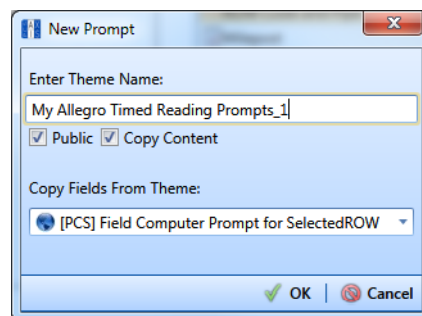

Figure 8-20. New Prompt
- 5 Click  **Add** to open the *New Prompt* dialog box (Figure 8-20).